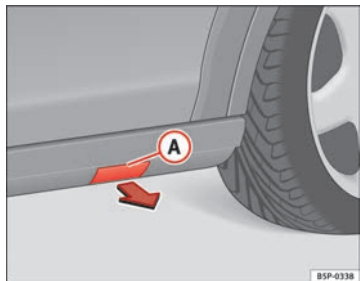

Fig. 182 Plastic sill panel trim with jack allotment cover
- Remove the cap **A** to access the anchor point for the vehicle jack ⇒ fig. 182.
- Pull on the cover and remove it from its allotment in the direction of the arrow ⇒ fig. 182.